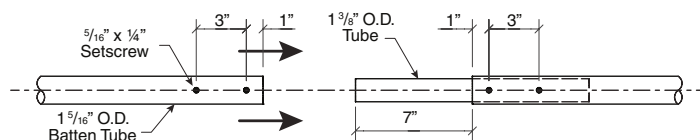

Figure 3
- ⑤ Slide 1⁵/₈" top and bottom batten tubes into pocket one section at a time, assembling as you go. Use 1³/₈" OD x 14" tube to connect section of batten tube. Splice should be installed so equal portions are inside tube that is being connected (see Fig. 3). Rotate batten to align the pre-drilled and tapped holes in batten. Secure with 5¹/₁₆" x 1/4" set screws.
- ⑥ Stretch bottom of curtain taut and trim batten tube so that it is approximately 3" shorter than curtain. Make sure tube ends are free of sharp edges and close bottom pocket at each end using lacing cord, zip ties or short bolts (by installer) through grommets.
- ⑦ Roll all the curtain fabric tightly onto 5" drive tube.
- ⑧ Raise the curtain to overhead attachment point using installer supplied temporary winch or block and tackle. Use caution to not damage curtain fabric with ropes, cables, etc. during lifting.
- ⑨ Position 5" drive tube with curtain wrapped around it into the cradle assemblies (see Fig. 3). Prior to removing from winch or block and tackles used to lift drive tube, lower all front rollers and reassemble bolts, washers and locknuts in the lowest hole on front top of cradle assemblies.